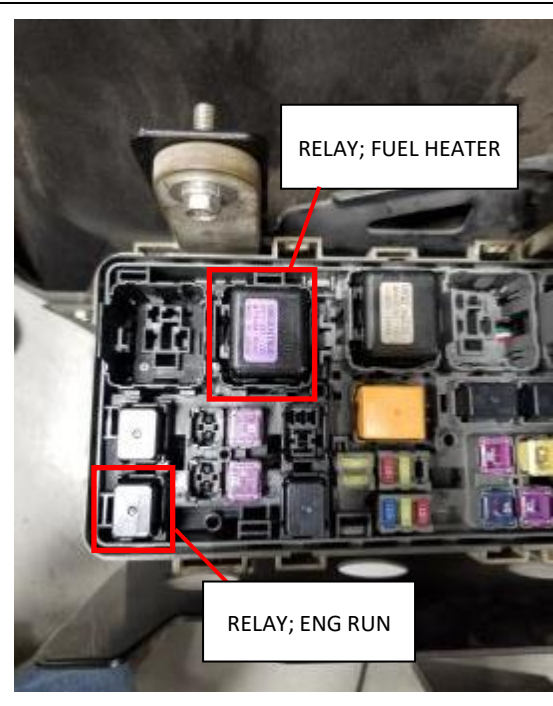

**Figure 11** – Tape on extension harness behind grommet
10. Install inner cover onto fuse box, secure the rubber grommet over the lower cover and fuse box. Use electrical tape to insulate the added extension harness wiring. (See Figure 11.)